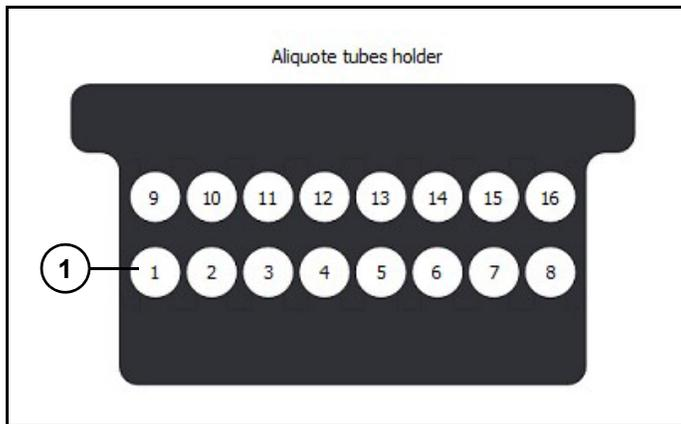

Figure 24
8. Place assay aliquot tubes to be used on assay tube holder located on instrument deck. First assay tube (1) (Figure 24) (used for tip 1) needs to be placed on left end of front rack, and following tubes should be placed in order from left to right on front rack.